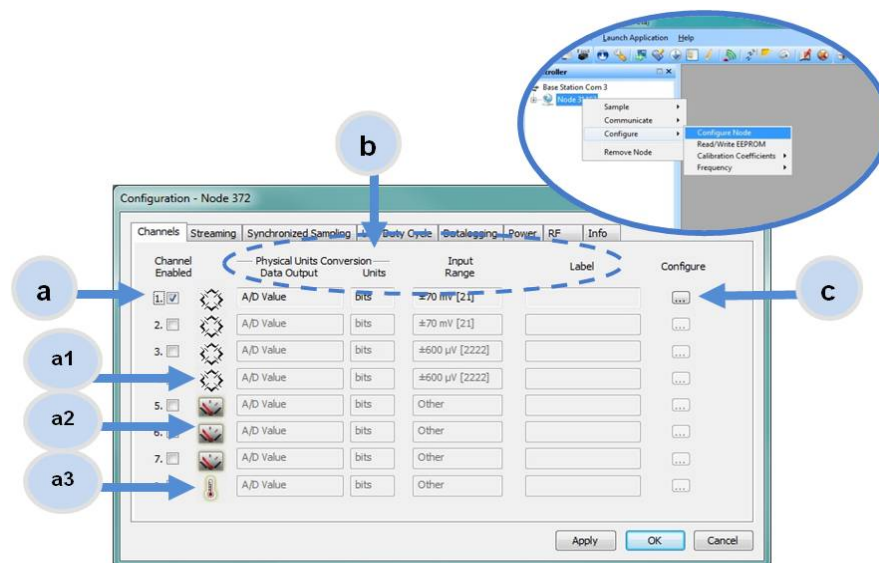

Figure 54 - Node Channels Menu
- a. **Channel Enabled:** indicates the sensor channel number. The check box is used to enable the channel and select it for sampling. The icon next to the check box describes the channel type inherent to the node being used. In the following example (*Figure 54 - Node Channels Menu*): a1) analog differential channel icon, a2) analog single ended channel icon, and a3) temperature channel icon.
2. To enter the channel configuration menu, select the Configure button as shown in Figure 54 - Node Channels Menu.